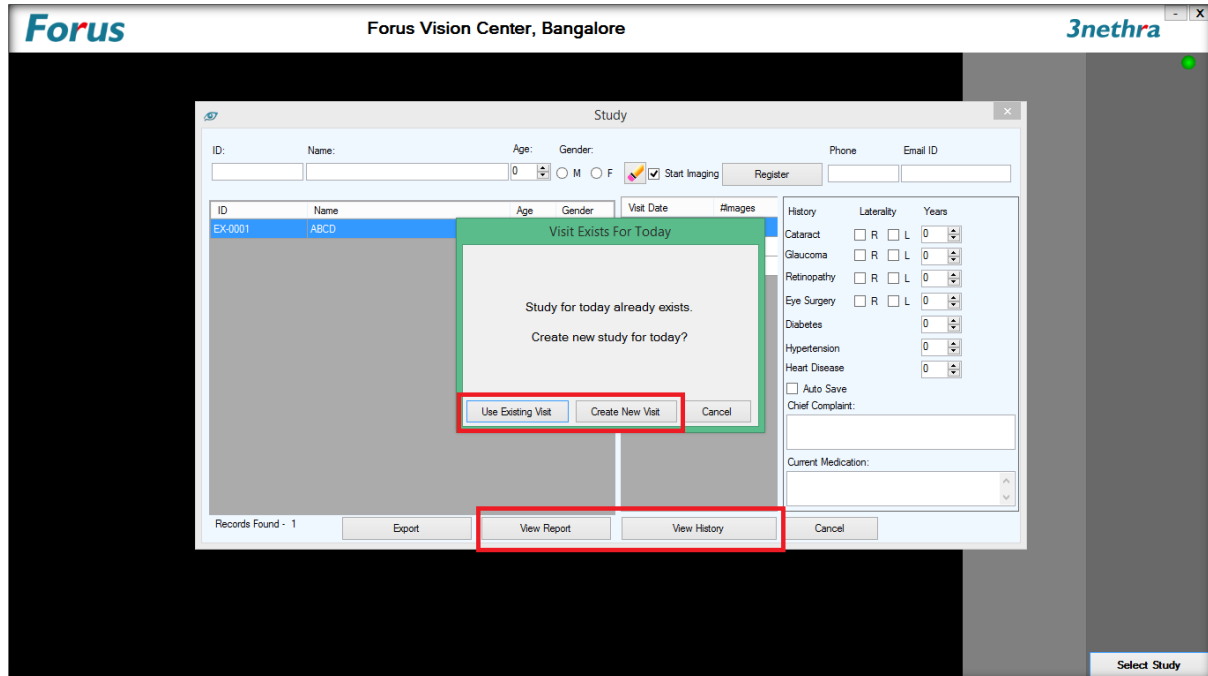

Figure 16: New Visit Dialog Box
4. Double click on the patient name or single click on "New Visit". This will launch a window as shown in Figure 16
5. Following operations can be performed on the pop-up screen. Refer Figure 16